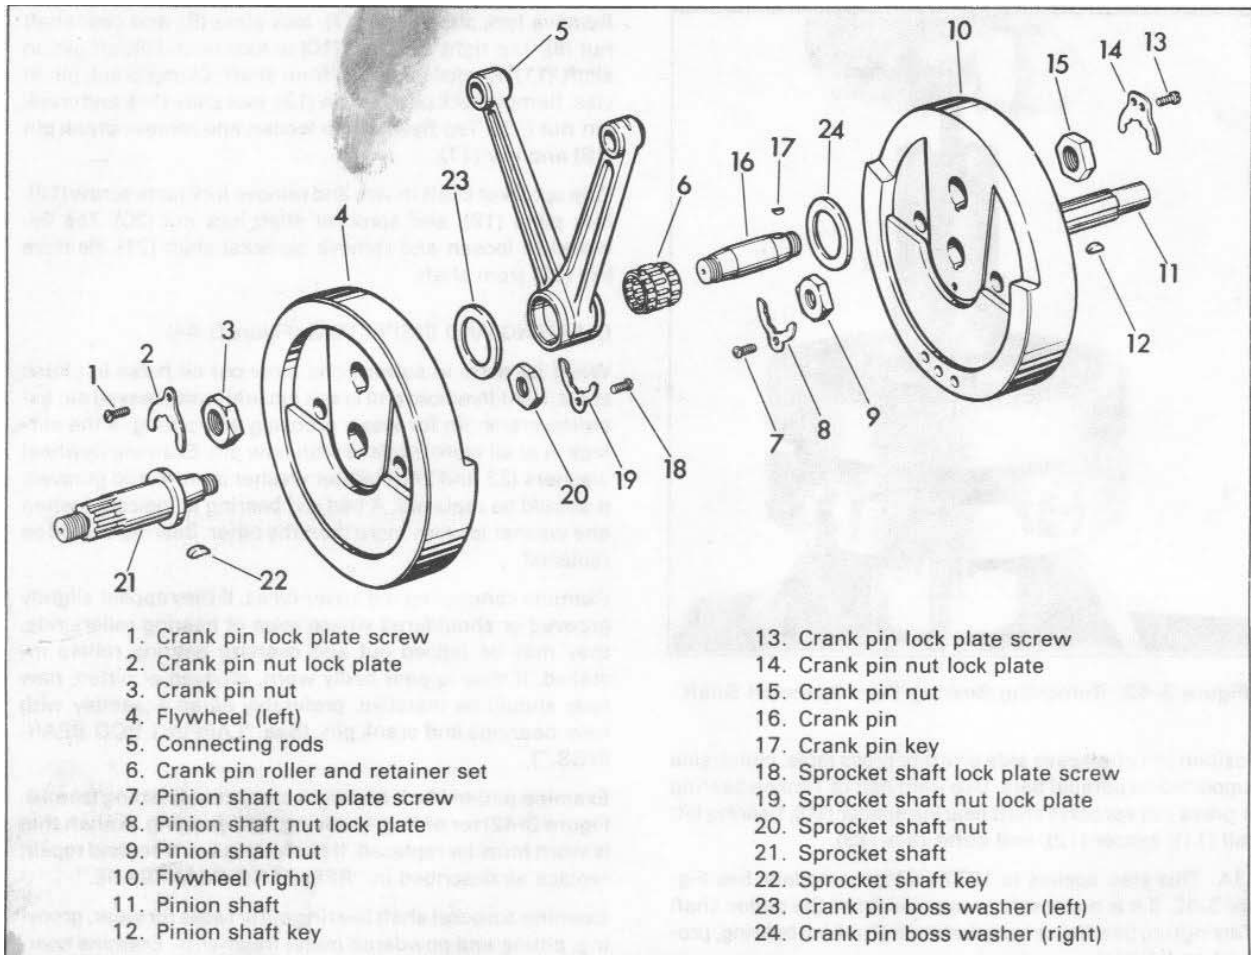

Figure 3-44. Flywheel and Connecting Rod Assembly - Exploded View
### DISASSEMBLING (Figure 3-44)
### CLEANING AND INSPECTING (Figure 3-44)
### REPLACING FLYWHEEL WASHERS (Figure 3-44)
**ASSEMBLING FLYWHEELS (Figure 3-44)**